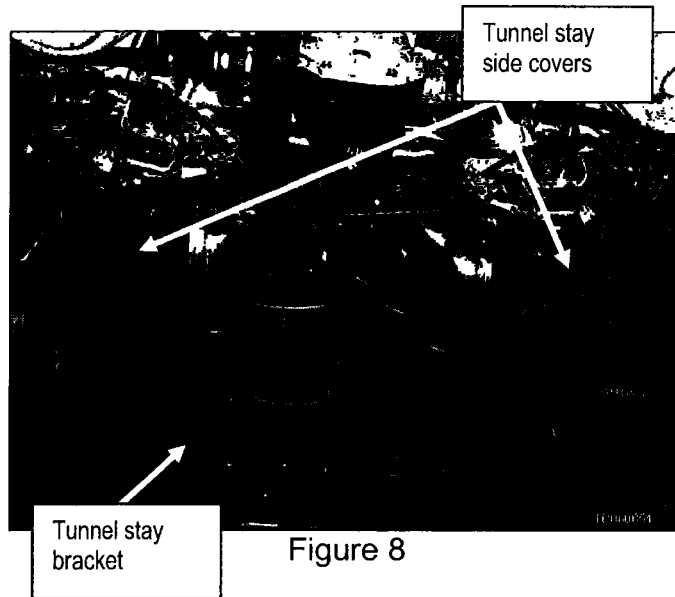

Figure 8
11. Remove nuts and bolts and remove the tunnel "stay" side covers and the tunnel "stay" bracket (see Figure 8).